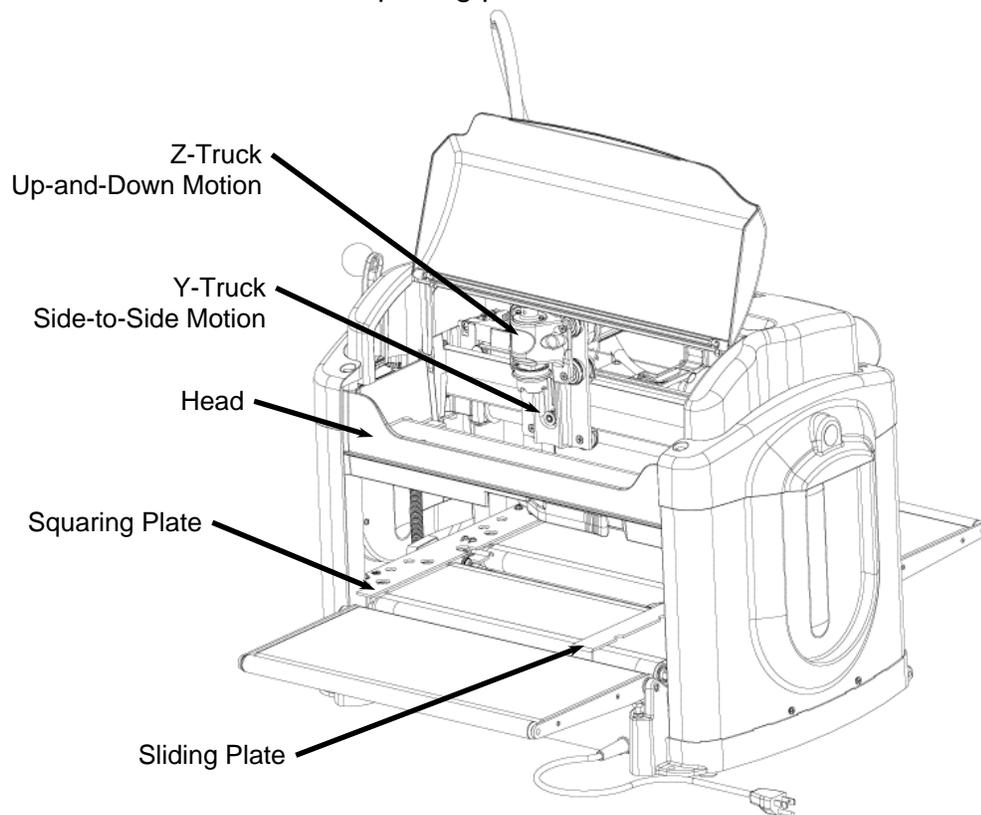
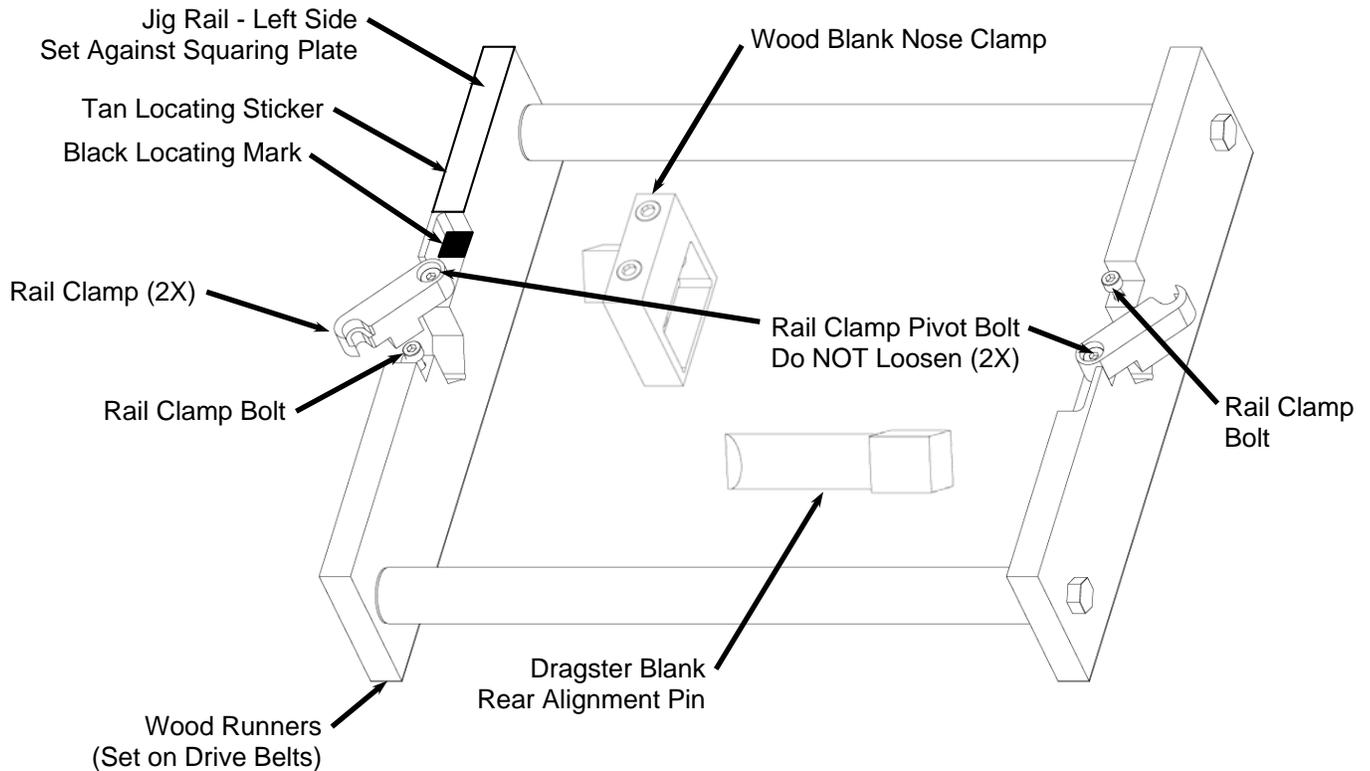

FIGURE 1: THE CARVEWRIGHT MACHINE
FIGURE 2: THE CARVEWRIGHT DRAGSTER JIG PARTS
The CO₂ powered Dragster Jig will arrive from the factory fully assembled, calibrated, and squared. In order to get the best results, your CarveWright machine will need to be checked and adjusted to make sure that the side-to-side travel of the cutting head is perpendicular (or square) to the side of the jig as set by the squaring plate (Figure 1). The jig has factory aligned reference surfaces on the left and right side rails (Figure 2) that will be used to check the square. The 1/8" ball-nose carving bit will be used to touch each of these surfaces on either side of the jig and indicate if the squaring plate is out of alignment. Adjustments to the machine's square will be accomplished using the built in adjustment mechanism on the squaring plate.
2. **Prepare the jig.** Make sure that the jig is empty and that the two rail clamps are loose and free to move (Figure 2). Use the 4mm Allen wrench to loosen the bolts holding the clamps, if necessary. Note: Only loosen the bolt that is on the slotted side of each clamp. The rear pivot bolts should never be loosened.